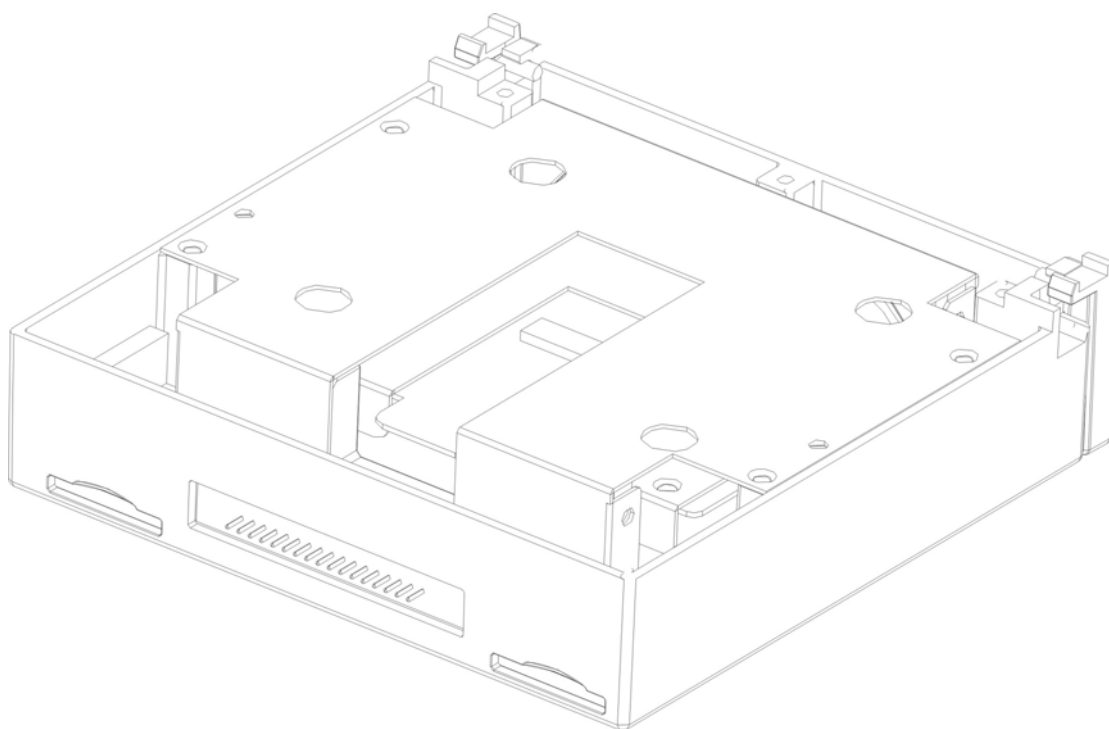

Figure 2-17
5) Install the bracket back to the HDD box and then secure the four bolts. See Figure 2-17.